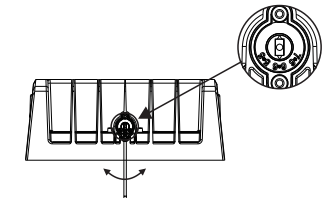

figure 7.2
2. Adjust the handle to the desired Angle by turning it left and right, as shown in the picture.(figure 7.2)